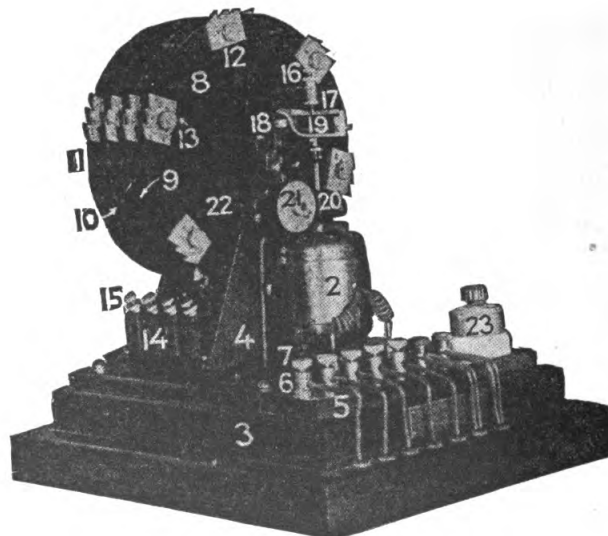

FIGURE 163.—Time-interval apparatus.
- (1) Four control disks.
- (2) Driving motor. Operates on 30 volts at a speed of 1,280 rpm.
- (3) Fly-ball governor for varying the speed of rotation of the motor.
(4) Four contactors, one for each circuit.
(5) Terminals for each circuit.
(6) Notched metal blocks mounted on each control disk.
Q. How is the desired time interval produced by any one control disk? *A.* By varying the number, points, and spacing of the notched blocks on the control disk. (See fig. 163.)